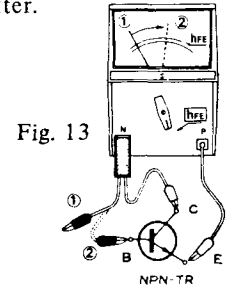

Fig. 13
- 3-4 For a good TR, there will be a big difference of reading between ① and ② of Fig. 13. In ①, when  $I_B = 0$  and with base open, only a little  $I_{CE0}$  is read, and in ②,  $I_B$  flows and  $I_c$  changes reading an increased value by  $I_B \times h_{FE}$ .